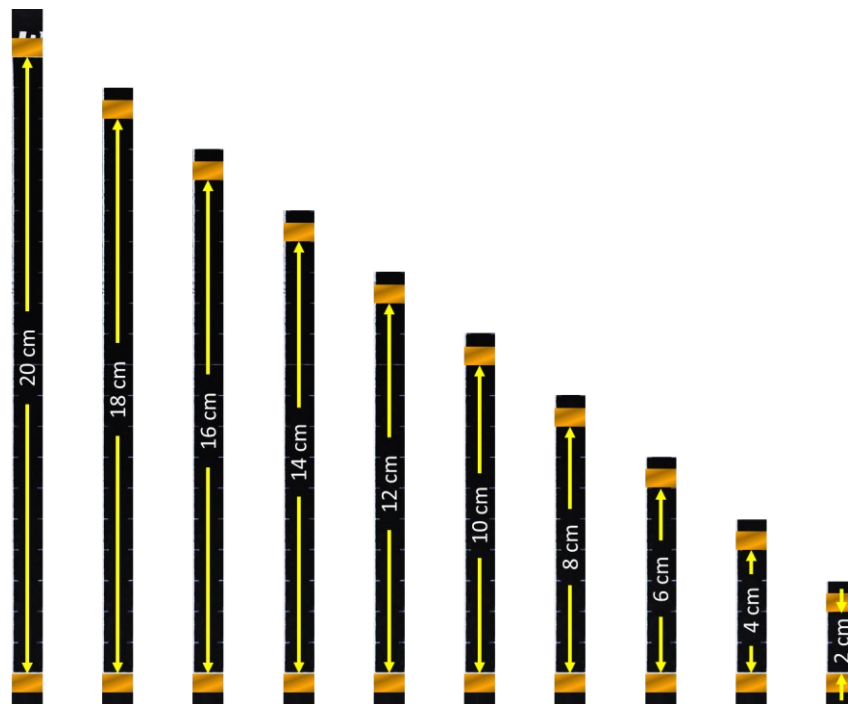

Fig. 6: Measure the resistance of the conductive paper strip for lengths of 20 cm, 18 cm, 16 cm, ... 2 cm.
7. Continue this process of adding a strip of conductive tape 2 cm over from the previous location, cutting off the extra paper with the previous tape strip, and measuring the new resistance. Each time record the resistance,  $R$ , and length,  $L$ . Continue until you have measured a 2 cm long strip of conductive paper (see Fig. 6).